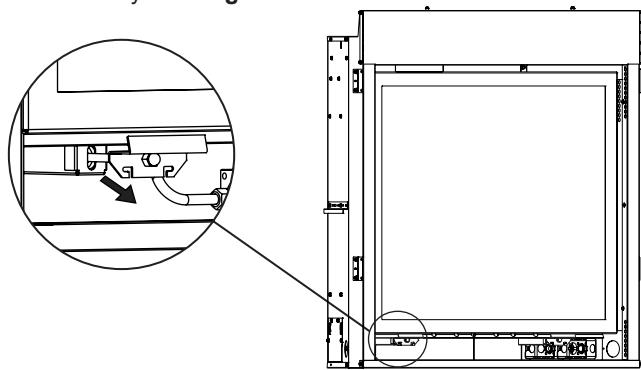

Figure 5
- Pull out to release both latches at bottom of firebox assembly. **See Figure 5.**
25. Reinstall the glass frame removed in steps 2 and 3. **See Figures 5 & 6.**